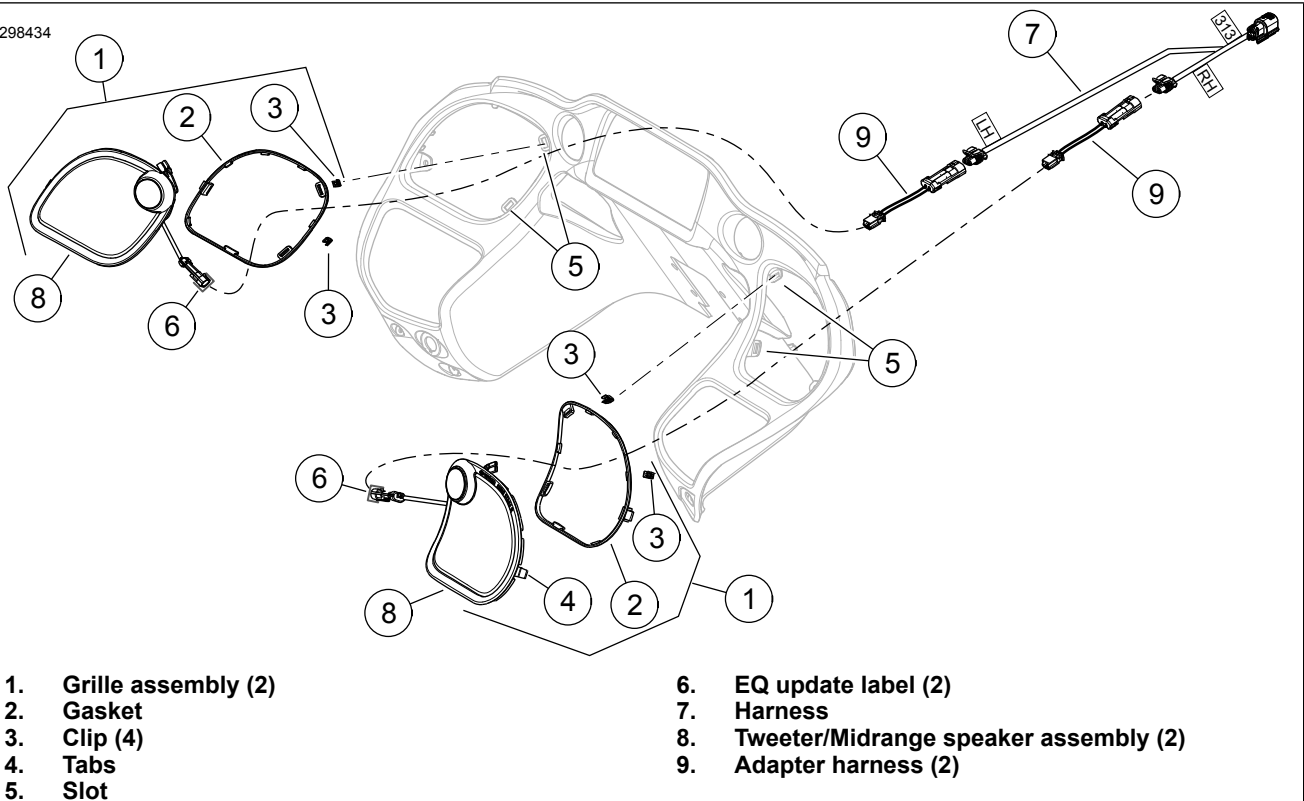
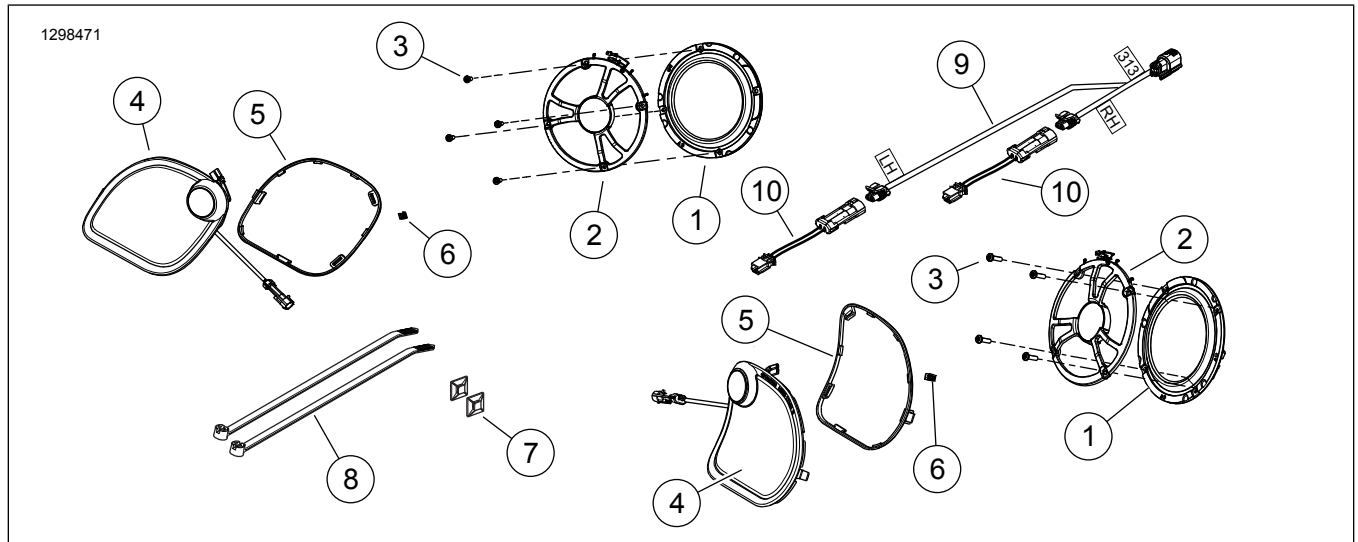

Figure 2. Speaker Tweeter/Midrange and Grille
Figure 4. Service Parts, BOOM! Audio Stage II Fairing Speaker Kit (FLTR)
See Figure 4 and Table 1.
5. See Figure 2. Install grille assembly (1):
- b. Verify that the rubber gasket (2) is in place around the perimeter of the grille. Check that the two clips (3) are in place on the grille tabs (4). Replace components if damaged or missing.
- d. Engage tab (4) into the outboard side of the speaker opening.
- e. Engage the grille retainer clips in the slots (5).
7. See Figure 2. **ALL models:** Position harness (7) inside inner fairing.
- Adapter harness (9) Figure 2 or adapter harness (10) Figure 4 is required for the generation of speakers identified in this kit, but may not be required on all models. Some speaker and harness combinations may have harness connections that differ. Use adapter (69200925) to resolve connection.*
9. See Figure 4. Add adapter harness (10) from kit.
10. See Figure 2. Mate adapter harness to harness (7).